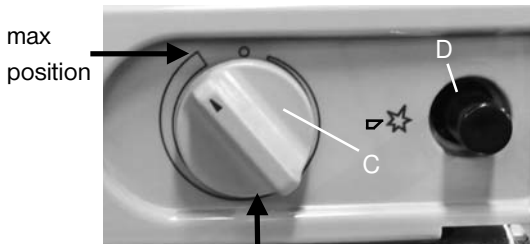
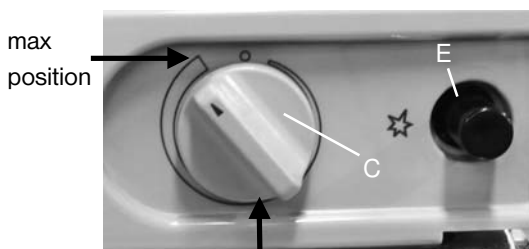

Figure 6
Figure 7
This consists of a gas/electric thermostat knob (C) with built-in safety pilot, a burner with igniter plug and a piezo-gas igniter (Figure 6) (D) or electronic ignition (Figure 7) (E), and a flame indicator (galvanometer)(B).